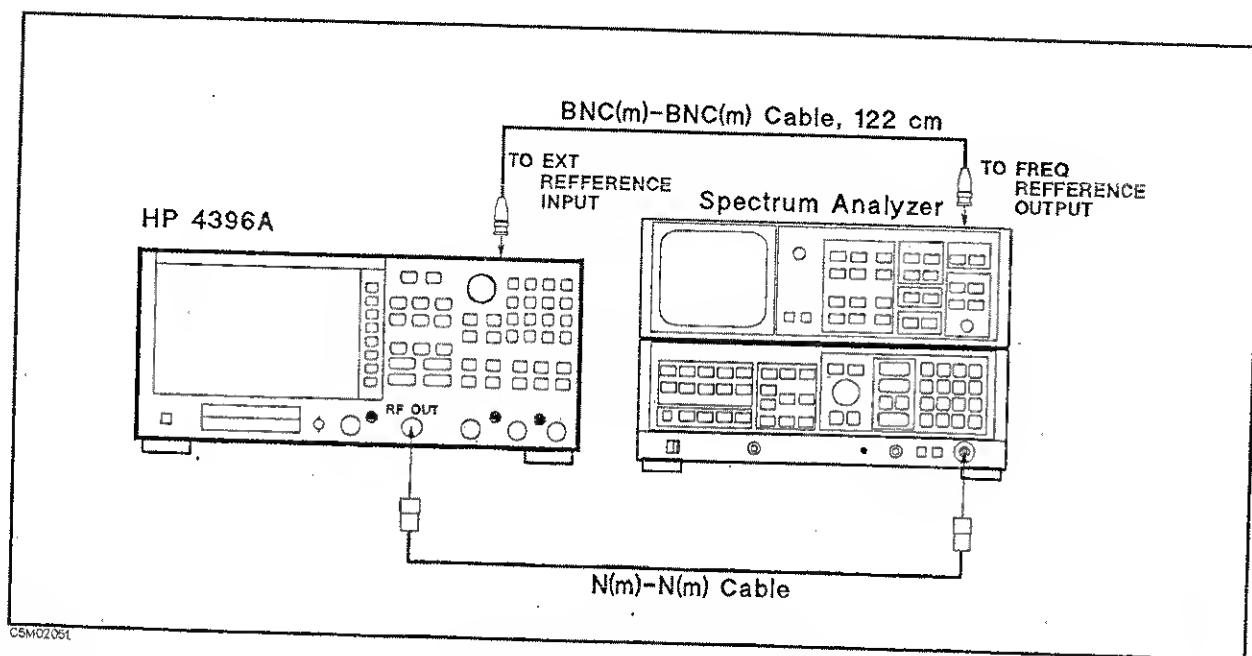

Figure 2-5. Harmonics Test Setup
1. Connect the test equipment as shown in Figure 2-5.
Connect the spectrum analyzer's 10 MHz frequency reference output to the HP 4396A EXT REF Input on the rear panel as shown in Figure 2-5. With this configuration, both the spectrum analyzer and the HP 4396A are phase locked to the same reference frequency to eliminate frequency offset errors.